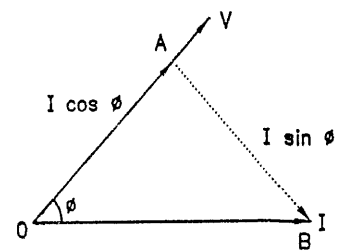

FIG. 2.46 : ACTIVE AND REACTIVE COMPONENTS OF CURRENT
- Fig. 2.46 shows the phasor diagram in which current I is lagging behind the voltage V by an angle ϕ .